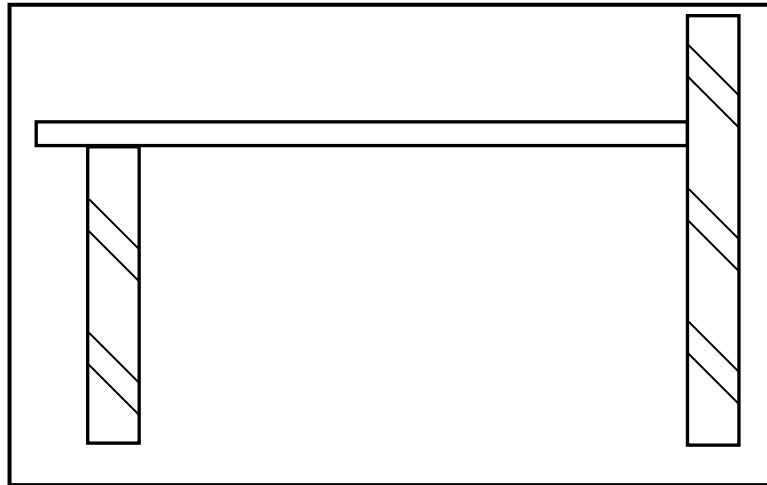

FIGURE 3.5
3.5 FIGURE 3.5 below shows a faulty lean-to roof construction.